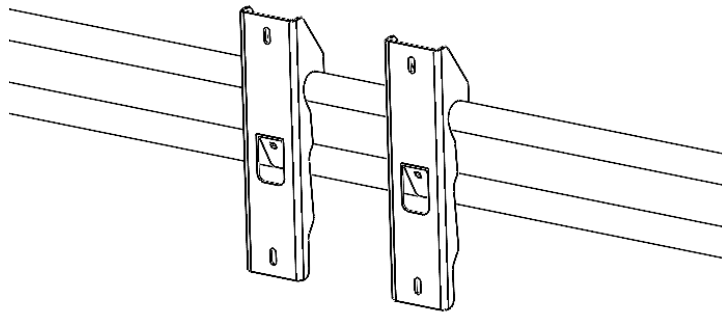

Figure 1: Positioning MaxTrax Mount along Roof Rack Rail
1. Determine the location of the MaxTrax Mount along the Roof Rack tubular rails. Place the hooks on the rails as shown in Figure 1.